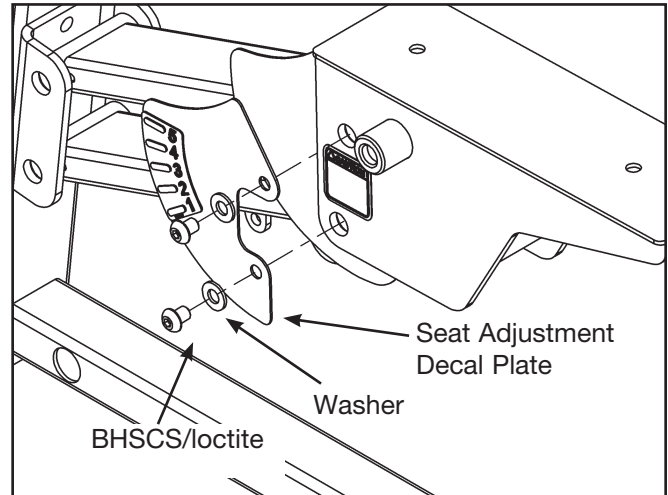

Figure 2
- A. Remove the two BHSCS and washers shown in Figure 2.
- D. Properly position the new seat plate and install the washer and BHSCS. See Figure 2.
- E. Repeat steps 3B and 3D for the other BHSCS. See Figure 2.